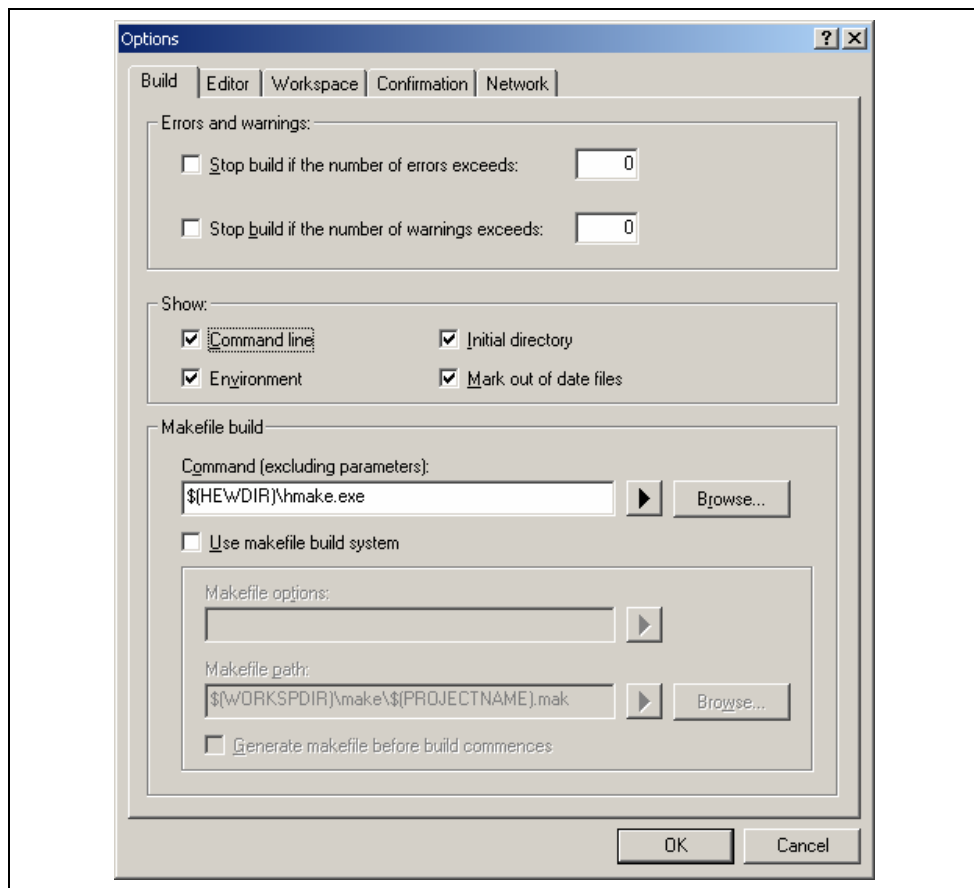

Figure 2.19: Options Dialog Build Tab
2. Select the “Build” tab (figure 2.19).
2. Select the "Build" tab (figure 2.19).